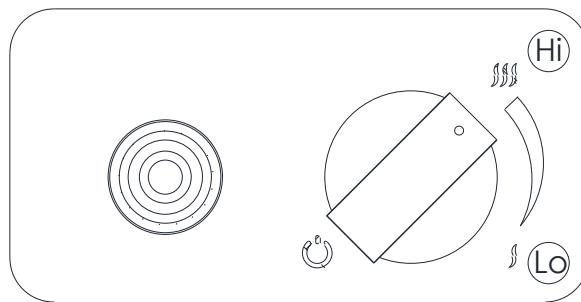

Fig 11 – Adjusting the flame high
- To achieve a higher flame turn the knob counter-clockwise to “Hi” position. To achieve a lower flame turn the knob clockwise to “Lo” position (*Fig 11*).